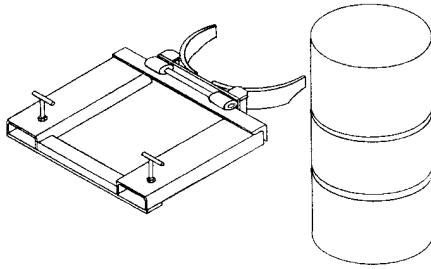

Figure 1
5. Raise unit and approach drum so that the jaws come in contact with the drum just below the upper rolling rib of the drum. (Figure 1)